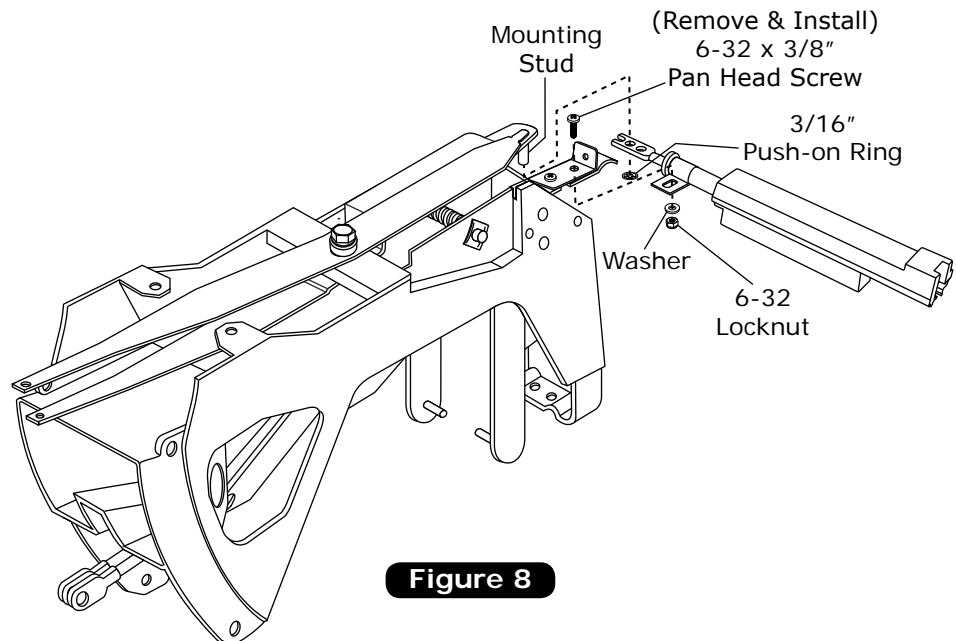

Figure 8
1. Install the cable converter assembly onto the mode lever by attaching the cable converter push rod to the OEM cable mounting stud on the lever (See Figure 8, below).
2. Remove the 6-32 x 3/8" pan head screw, and install the cable converter assembly to the control panel OEM cable clamp mounting location and bracket using the 6-32 x 3/8" pan head screw, a washer, and a 6-32 locknut as shown in Figure 8, below.
4. Secure the cable converter lever push rod to the OEM cable mounting stud using a 3/16" push-on ring as shown in Figure 8, below.